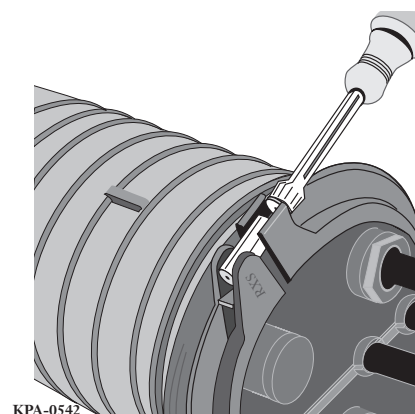

Figure 55 — Tighten Clamping Ring
- Step 5** Swing the clamping ring into closing position. Tighten the bolts until the plastic on the ring touches, then torque to a 50 in-lb value (Figure 55).